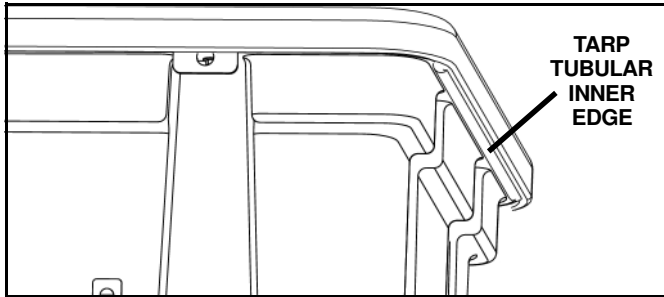

Figure 5
7. Stretch the tarp over the hopper and position the tubular rear inner edge of the tarp snugly under the rear hopper lip to secure. (See Figure 5.)